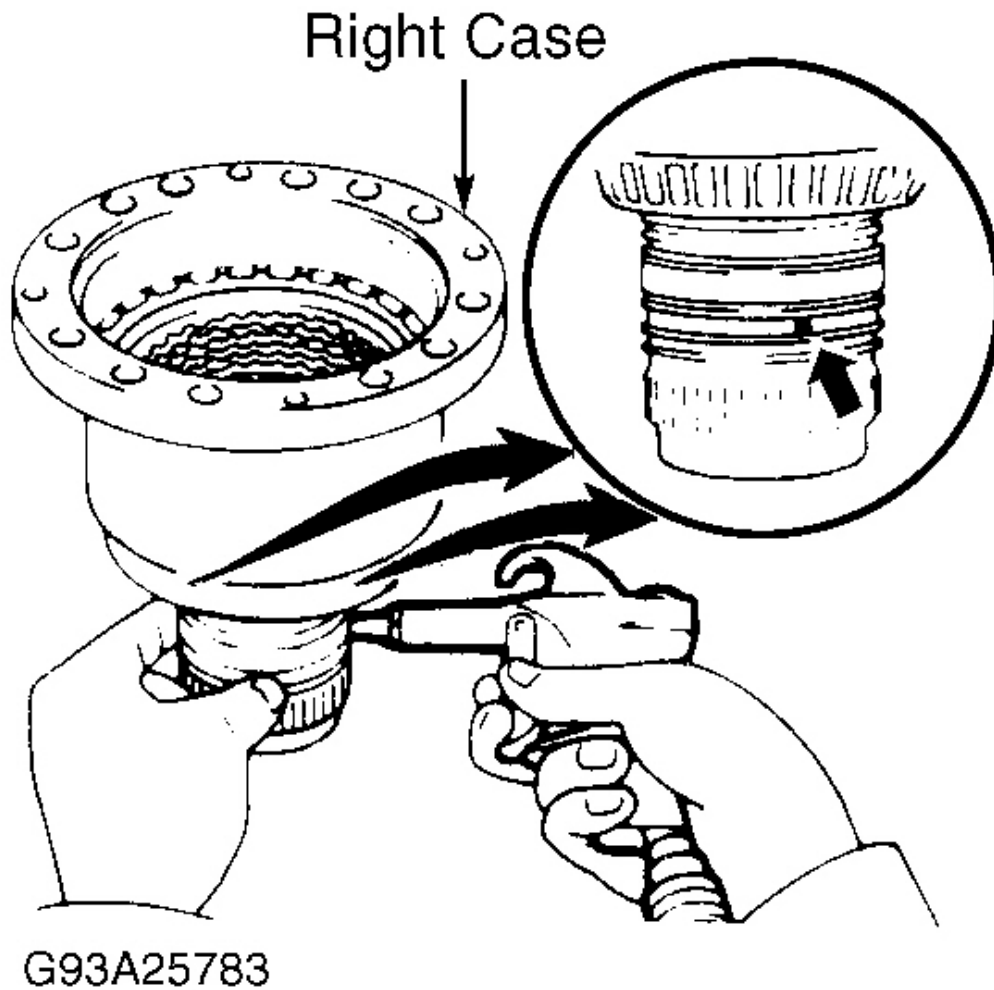

Fig. 44: Checking Operation Of Differential Clutch Pistons
6. Remove No. 1 thrust washer. Check operation of clutch pistons. Plug one hole in right case with your hand. Apply compressed air into other hole and confirm pistons move. See **Fig. 44** .